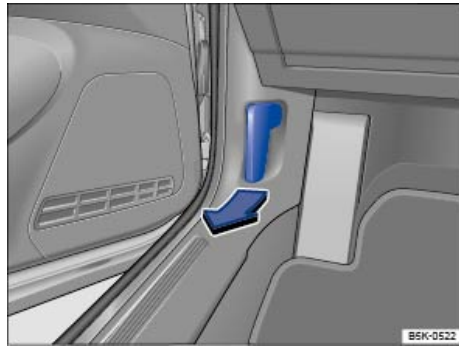

Fig. 165 In the footwell on the driver side: Inside engine hood release lever.
- Open the driver door and pull the inside hood release lever in the direction of the arrow ⇒ fig. 165. The engine hood is released from its latch by a spring ⇒ ⚠.